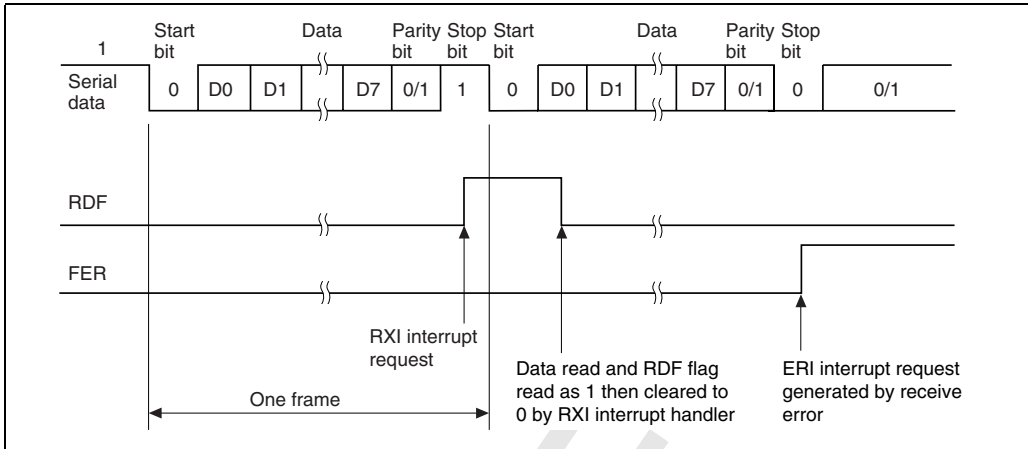

Figure 37: Example of SCIF receive operation (example with 8-Bit data, parity, one stop bit)
*Figure 37* shows an example of the operation for reception.